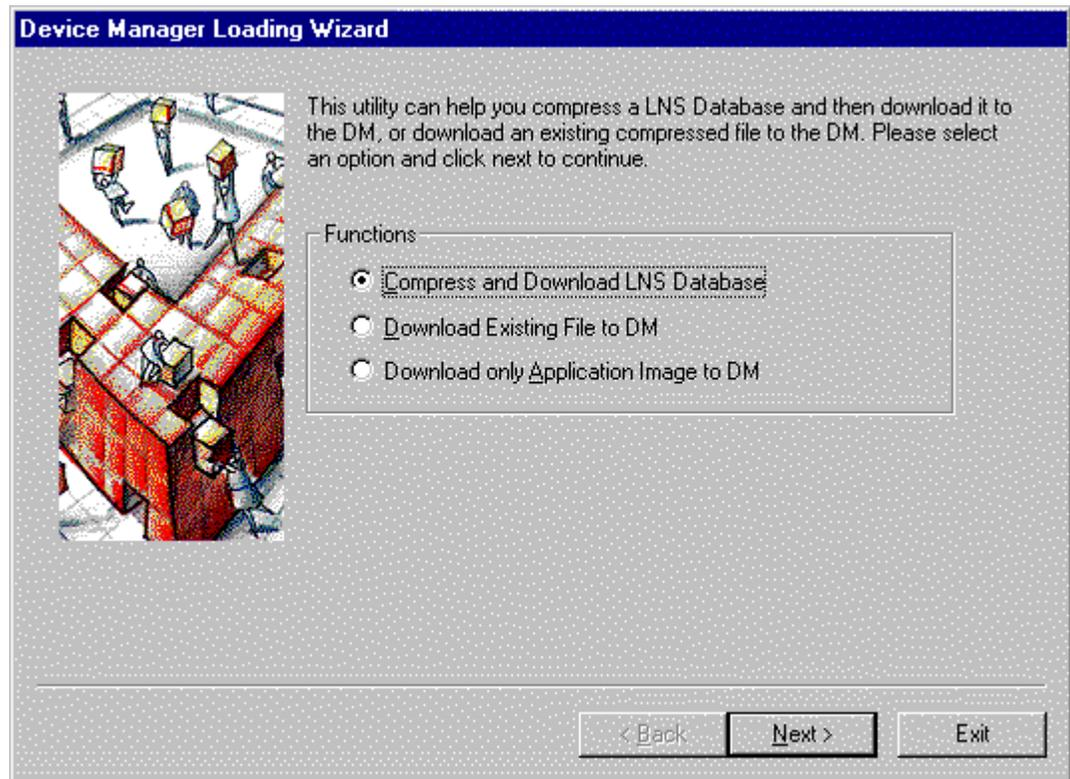

Figure 5.2 - Device Manager Loading Wizard
8. Start the Device Manager Loading Wizard by selecting it from START | PROGRAMS | Echelon Device Manager | Device Manager Loading Wizard. The window shown in figure 5.2 will appear.